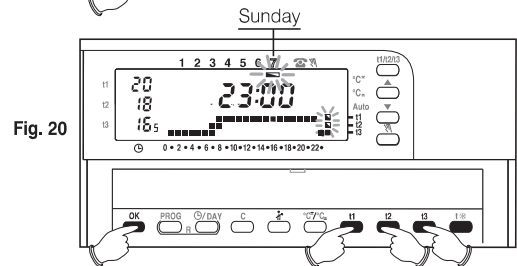
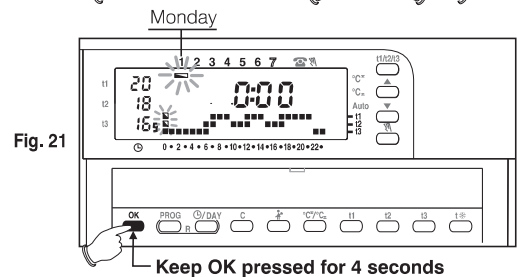

Fig. 20
Fig. 21
Once the temperature profile is set for Sunday (7) press, **OK** (fig. 20) to save and return to Monday's (1) settings, **then press OK once again for 4 seconds** (fig. 21); **this operation saves the complete weekly program.**